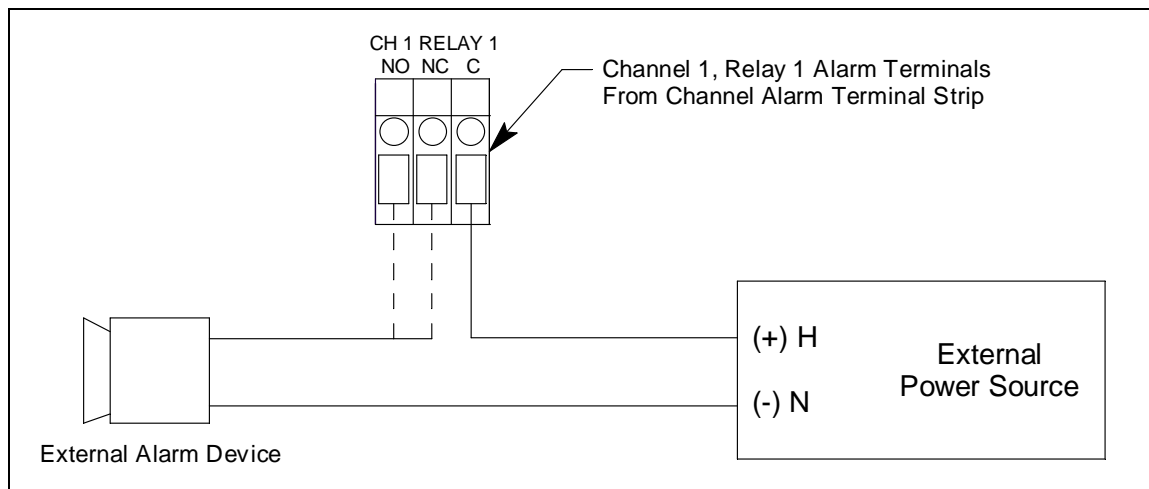

Figure 15: External Alarm Wiring
6. Connect the leads from the external alarm device and an external power source to the selected channel alarm or fail relay contact terminals as shown in Figure 15.